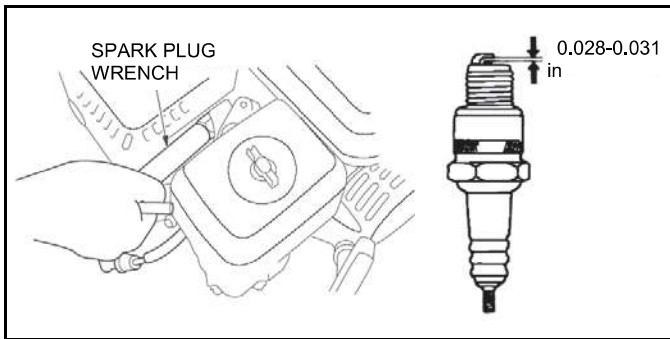

Figure 6-9. Change the Spark Plug
2. Remove and inspect spark plug (Figure 6-9).